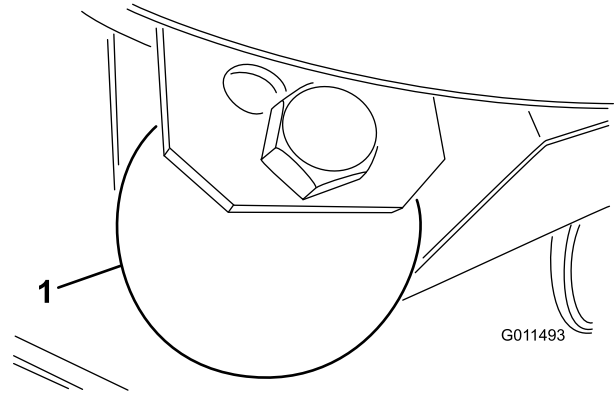

Figure 27
1. Remove the bolt and nut securing the gage wheel to the cutting unit brackets (Figure 27).